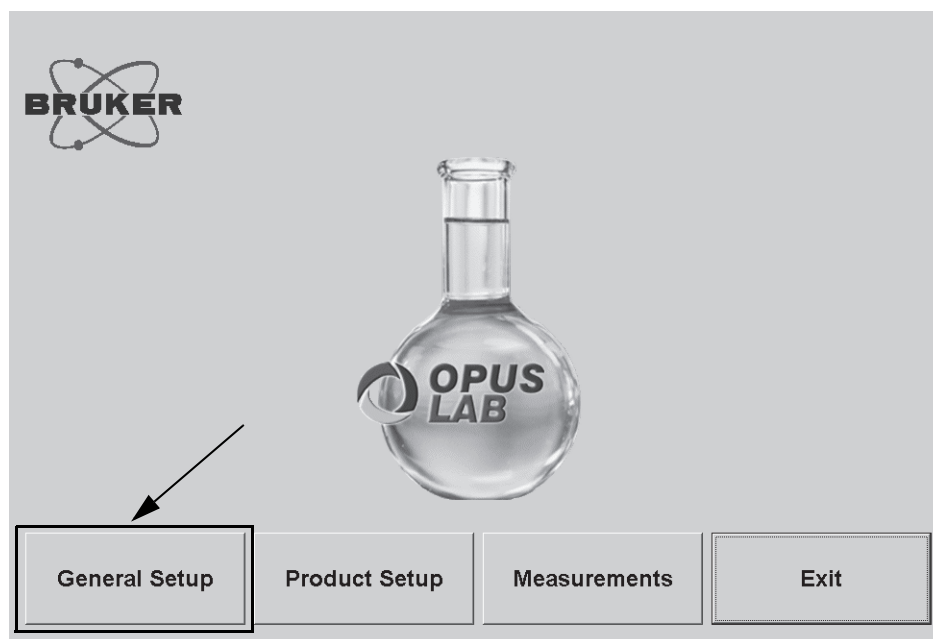

Figure 1: OPUS LAB starting dialog
**Note:** If you have OPUS LAB Administrator or LABManager rights, the OPUS LAB starting dialog (see figure 1) opens. Otherwise, the measurement dialog (see figure 36 on page 54) is shown on the screen.